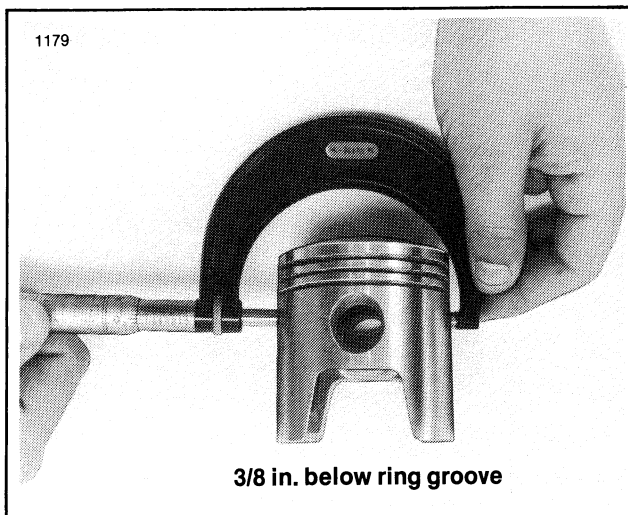

Figure 5-11. Measuring Piston
4. See Figure 5-11. Measure piston 3/8 in. below bottom ring groove, 90° from piston pin bore.